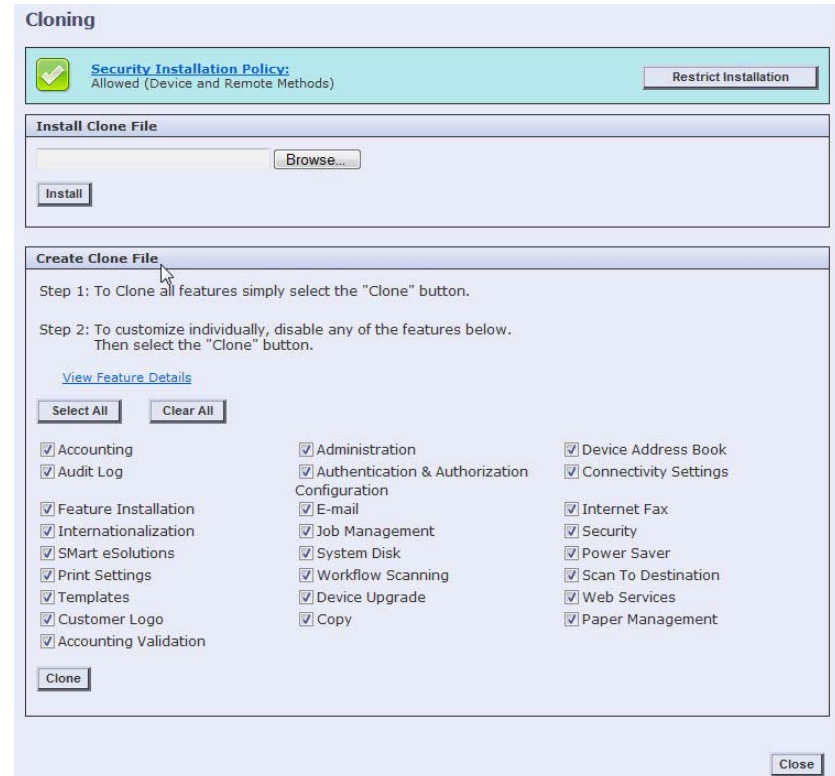

Figure 1 Cloning Interface
1. When the **Centroware® Internet Services** window opens, select the **Properties** Tab. Click on the **General Setup** link, then the **Cloning** link (Figure 1).